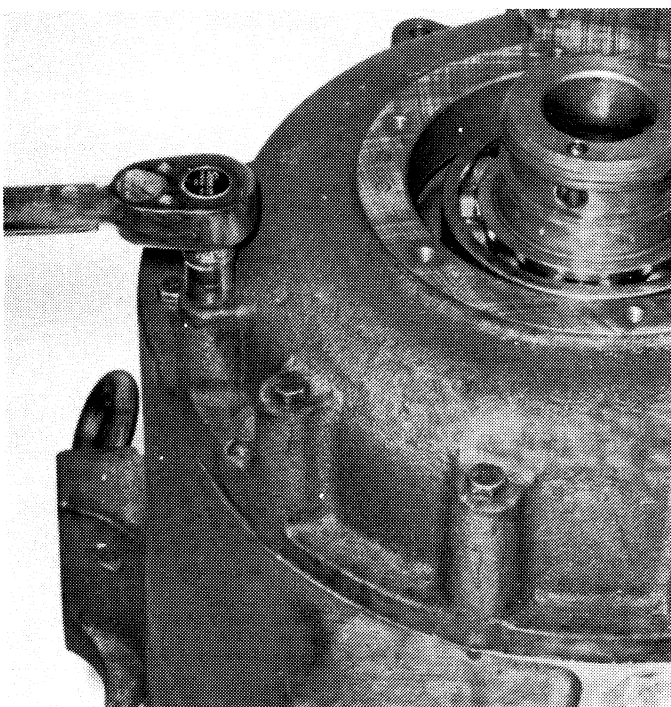

**Figure 6-14. Lube Tube Partially Removed.**
7. Remove the lube tube and gasket. Do not remove the rollpin unless parts are being replaced. See Figure 6-14.